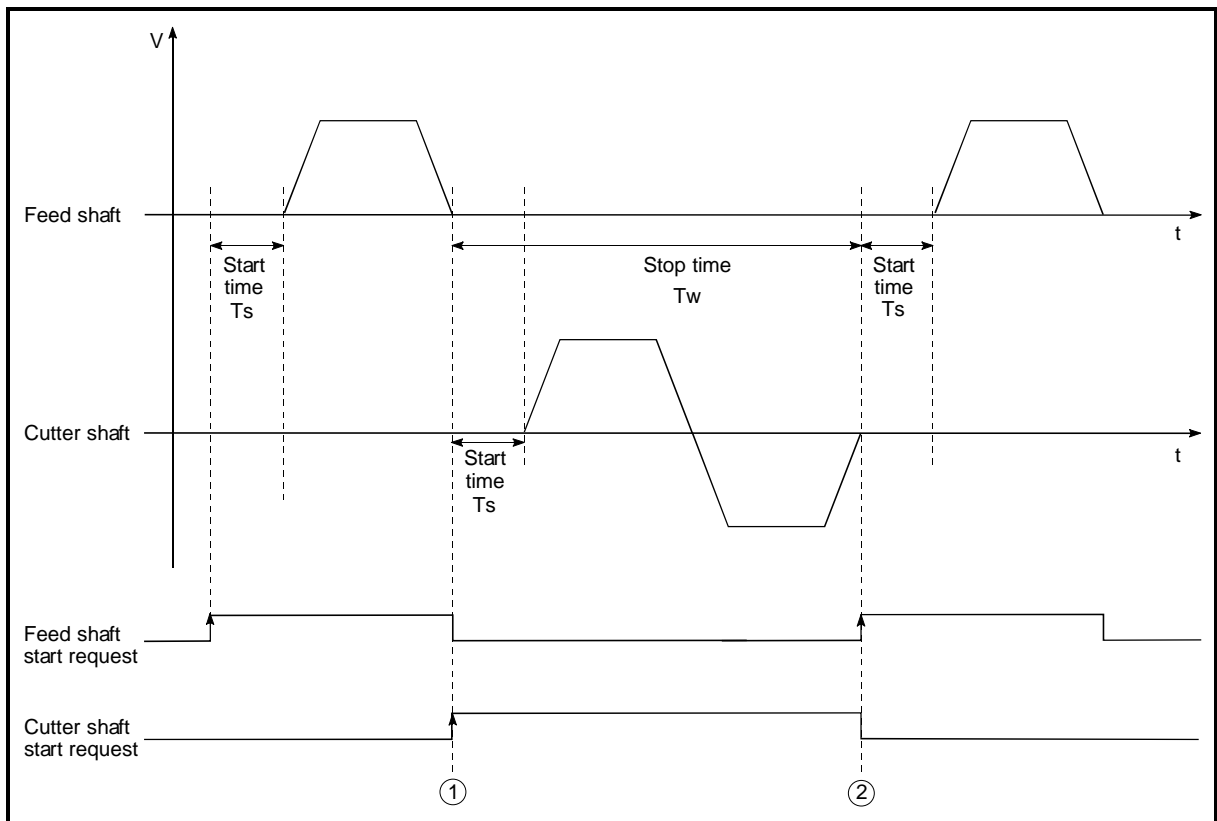

Fig. 12.50 Operation timings of system example
to cut the stock to fixed size. The operations of the feed shaft and cutter shaft are represented as shown in Fig. 12.50.
In Fig. 12.50, the feed shaft stands by during the stop time  $T_w$ .
- (1) The time required to analyze the positioning data is up to 4.0ms.
- (2) After positioning data analysis, the system is put in an execution prohibition flag OFF waiting status. Any change made to the positioning data in the execution prohibition flag OFF waiting status is not reflected on the positioning data. Change the positioning data before turning ON the positioning start signal.
- (3) The pre-reading start function is invalid if the execution prohibition flag is turned OFF between when the positioning start signal has turned ON and when positioning data analysis is completed (Ta < start time, Ta: Refer to Fig. 12.50).
- (4) The data No. which can be executed positioning start using "[Cd.3] Positioning start No." with the pre-reading start function are No. 1 to 600 only. Performing the pre-reading start function at the setting of No. 7000 to 7004 or 9001 to 9004 will result in an outside start No. range error (Error code: 543).
- (5) Always turn ON the execution prohibition flag at the same time or before turning ON the positioning start signal. Pre-reading may not be started if the execution prohibition flag is turned ON during Ta after the positioning start signal is turned ON. The pre-reading start function is invalid if the execution prohibition flag is turned ON after positioning start (pulse output) with the execution prohibition flag OFF. (It is made valid at the next positioning start.)